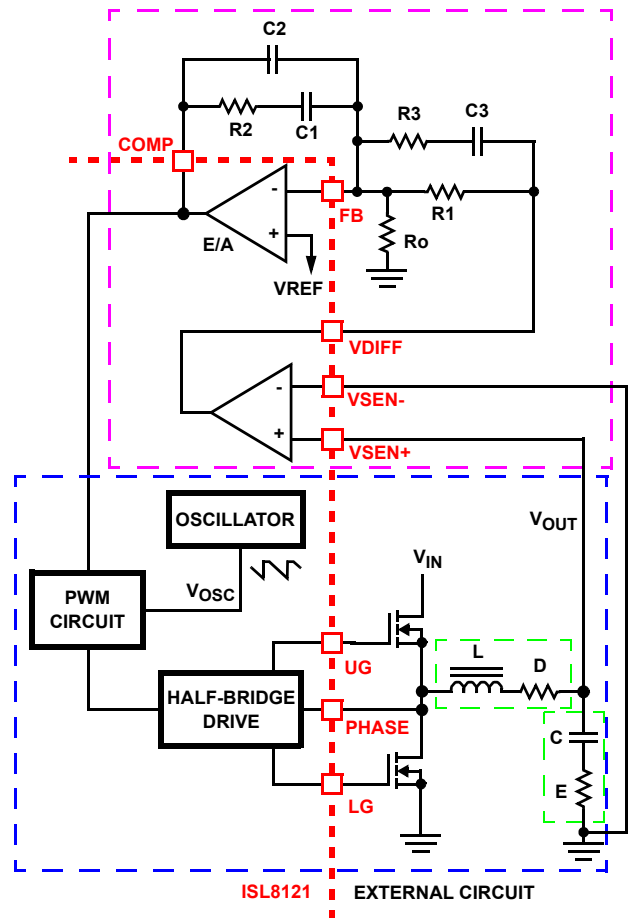

FIGURE 24. VOLTAGE-MODE BUCK CONVERTER COMPENSATION DESIGN
Figure 24 highlights the voltage-mode control loop for a synchronous-rectified buck converter, applicable, with a small number of adjustments, to the multi-phase ISL8121 circuit. The output voltage ( $V_{OUT}$ ) is regulated to the reference voltage,  $V_{REF}$ , level. The error amplifier output (COMP pin voltage) is compared with the oscillator (OSC) modified saw-tooth wave to provide a pulse-width modulated wave with an amplitude of  $V_{IN}$  at the PHASE node. The PWM wave is smoothed by the output
1. Select a value for R1 (1kΩ to 5kΩ, typically). Calculate value for R2 for desired converter bandwidth (F0). If setting the output voltage via an offset resistor connected to the FB pin, Ro in Figure 24, the design procedure can be followed as presented. However, when setting the output voltage via a resistor divider placed at the input of the differential amplifier, in order to compensate for the attenuation introduced by the resistor divider, the